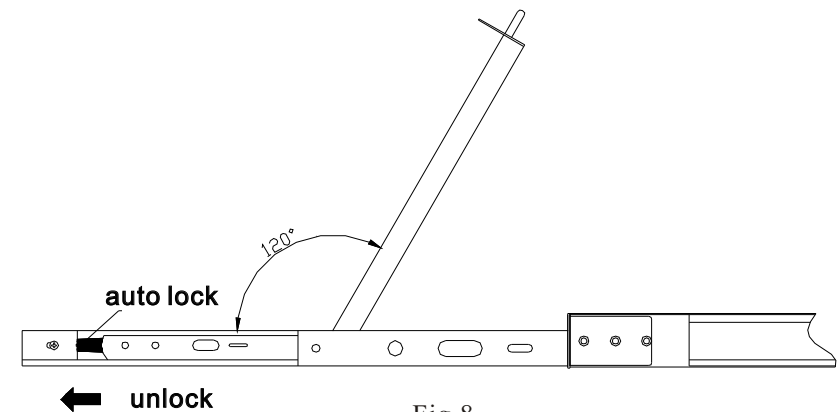

Fig.8
- * The panel can be Open to 120° for use;(see fig.8)
- * Release the guide rail lock (see fig.8)